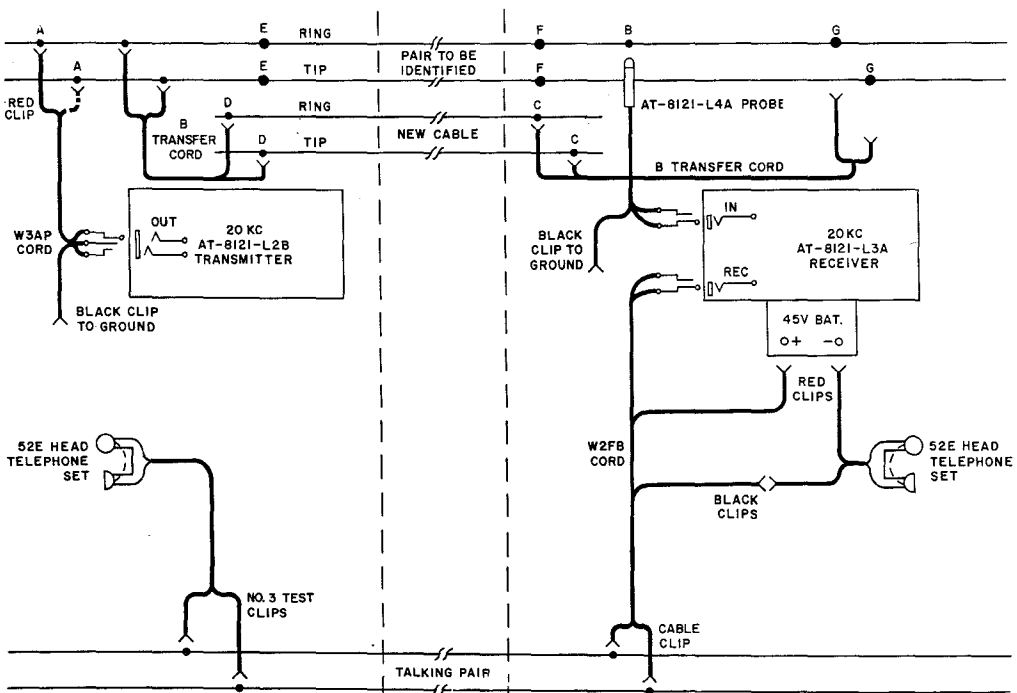

Fig. 1 — Identification of Voice-Frequency Pairs Using AT-812L, L1A Test Set
- (1) Make connections as shown in Fig. 1.
- (2) Plug in the W3AP Cord to turn on the transmitter at the sending end and connect the red clip to the ring side of the pair to be identified.
(3) Identify the ring side of the old pair at point B and verify ring side of new cable pair at point C with the AT-812L, List 4A Probe.
(4) Connect the red clip of the W3AP Cord to the tip side of the pair at point A.
(5) Identify the tip side of the old pair at point B and verify the tip side of the new pair at point C with the AT-812L, List 4A Probe.